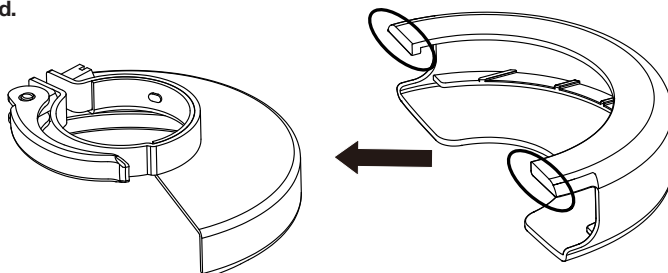

Figure 3
- Wheel guard for cutting (See Fig. 3 & 4)